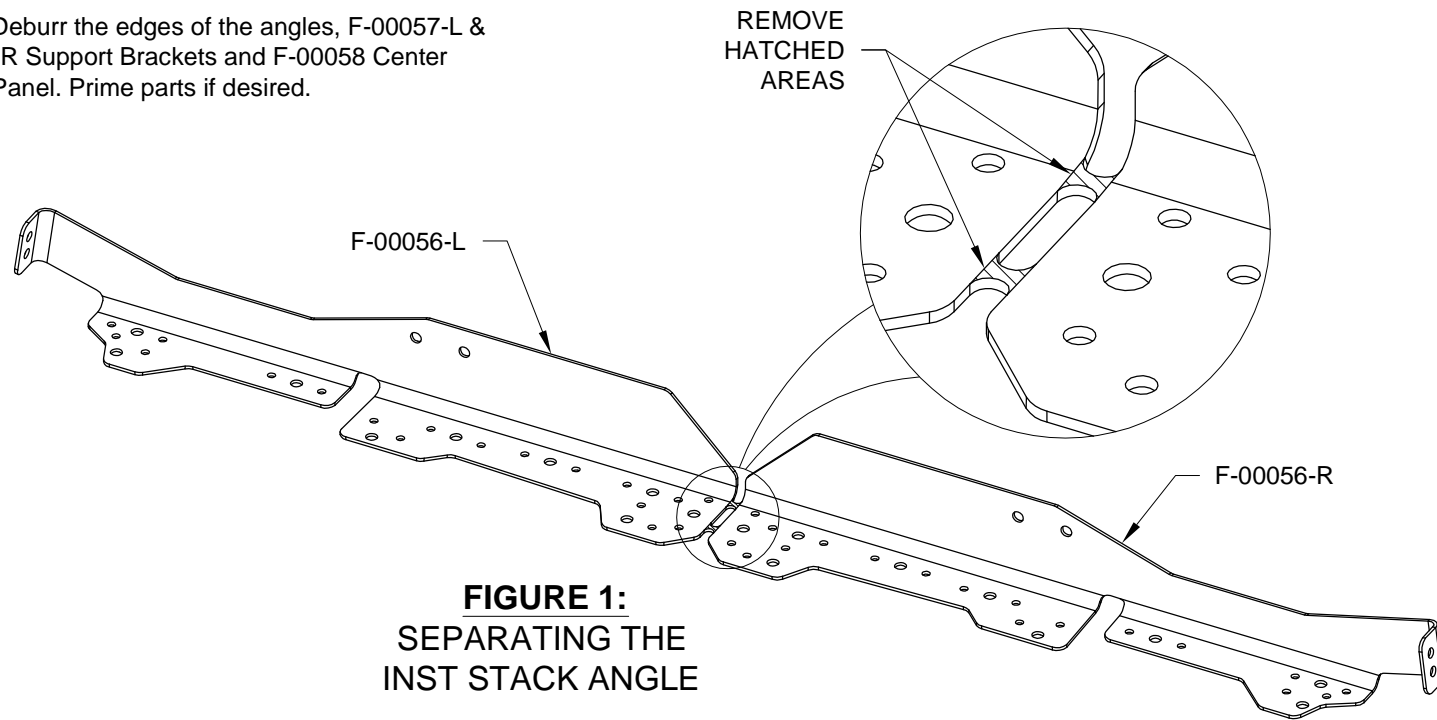

FIGURE 1:
Page: 42H-03 REV 1: In Figure 1, replace AN507-6R6 with AN507-6R8
Step 1: Separate the F-00056 Inst Stack Angle GTR225 into F-00056-L & -R Inst Stack Angles as shown in Figure 1.